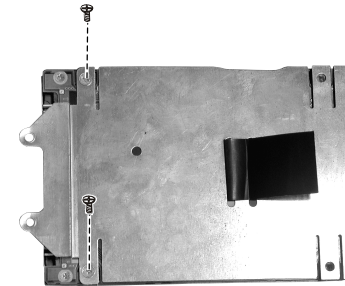

Figure 2-14 Free the hard disk
6. To free the hard disk drive, remove two screws that secure the holding. (Figure 2-14)